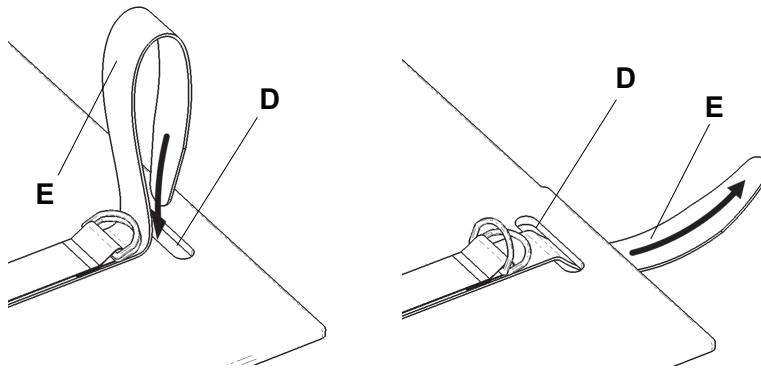

Figure 1 – Insert tie down straps
8. Thread the tie down strap (E) through the Fowler hole (D) (Figure 1).